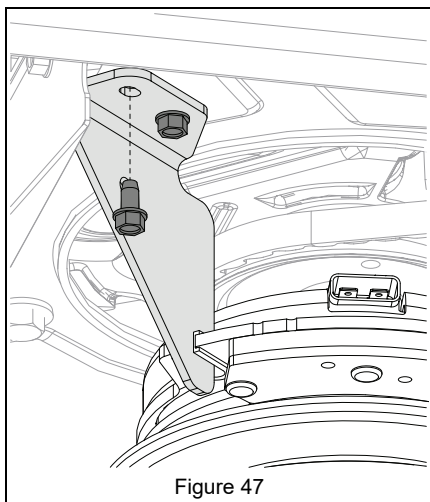

Figure 47
See Figure 47.
4. Reinstall clutch stop bracket and secure with original hardware. See Figure 47.